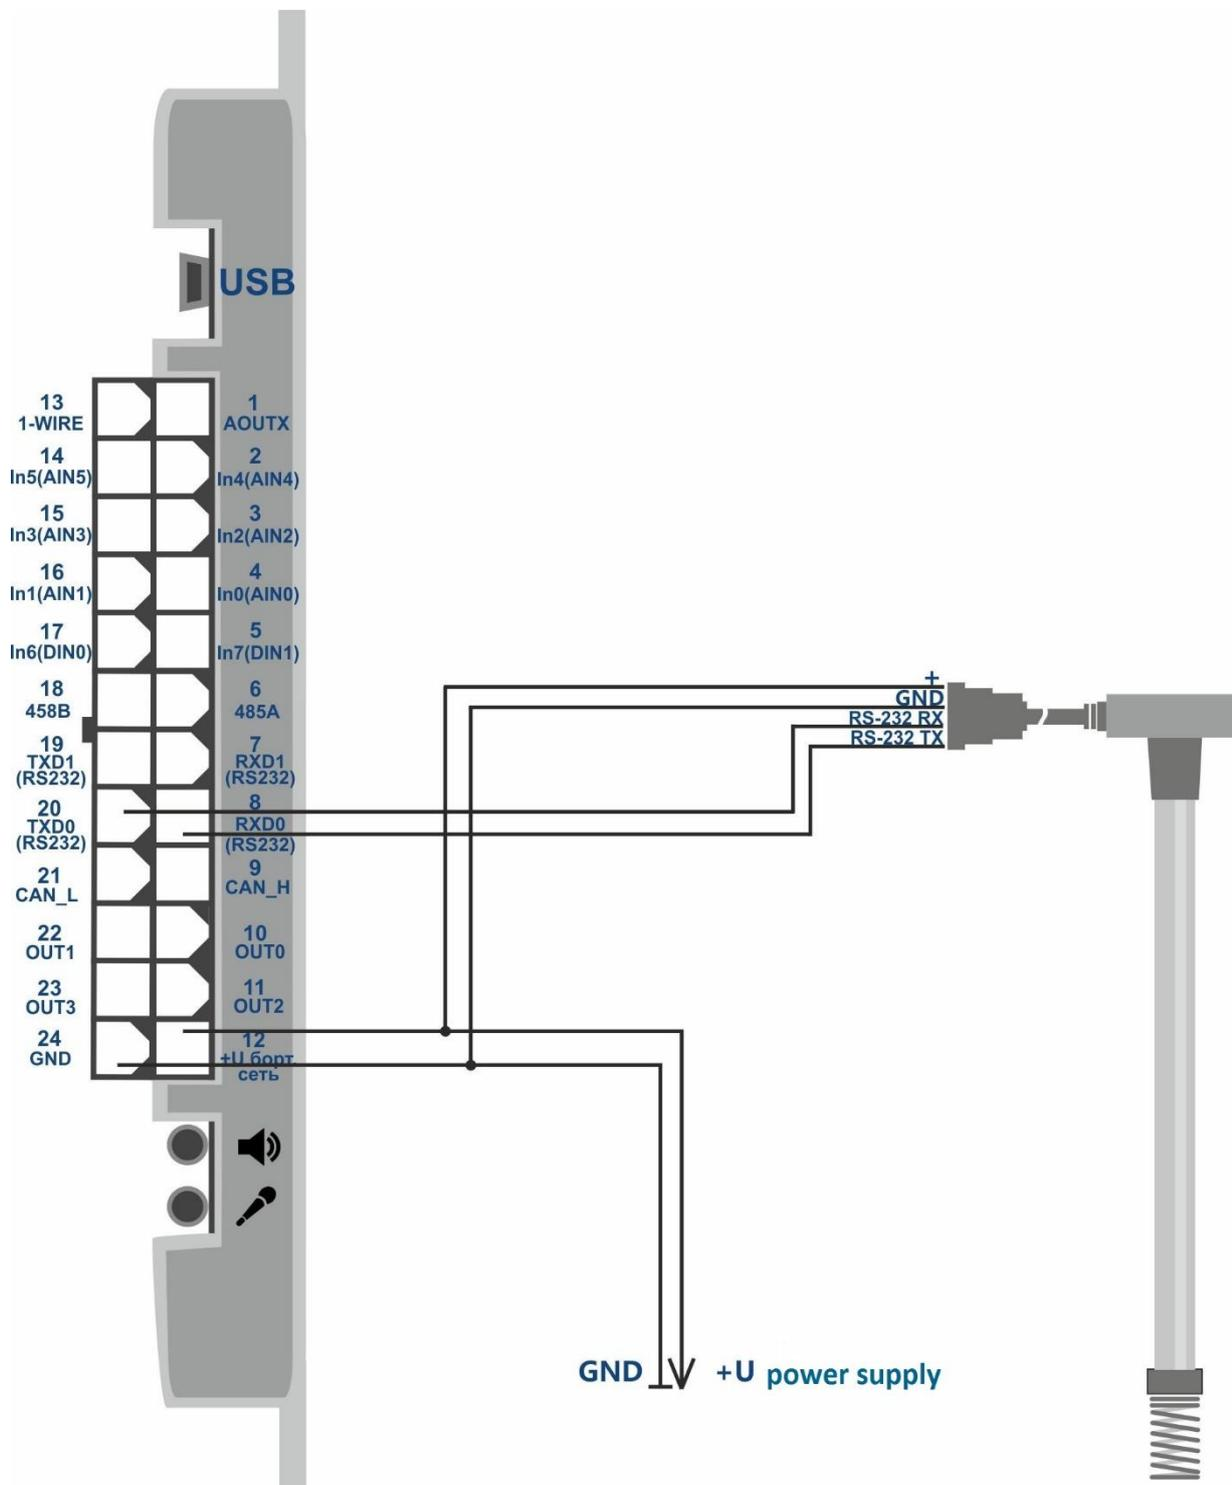

Figure 13 Connection layout of a fuel level sensor based on RS-232 interface (12 +U vehicle electrical system)
- connect the fuel level sensors in accordance with the diagram in Figure 13;